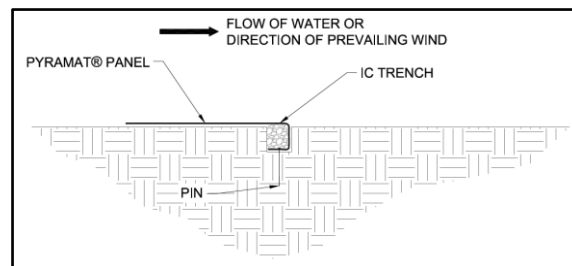

Figure 7: Initial Channel (IC) Trench Complete
5. Fold the PYRAMAT panel over the top of the compacted IC trench (Figure 7) and place each panel end into the respective COS trenches.